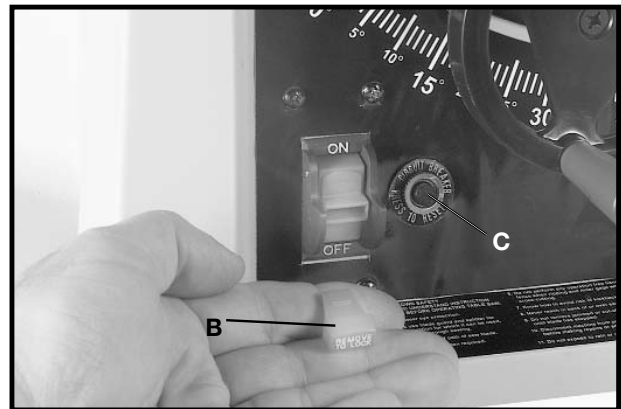

Fig. 30
**IMPORTANT:** When the tool is not in use, the switch should be locked in the “OFF” position to prevent unauthorized use. To lock the tool, grasp the switch toggle (B) and pull it out of the switch (Fig. 30). With the switch toggle (B) removed, the switch will not operate. However, should the switch toggle be removed while the saw is running, the machine can be turned “OFF,” but cannot be restarted without re-inserting the switch toggle (B).
Your saw is equipped with a reset button (C) Fig. 30. If the motor stops or fails to start due to over-loading (cutting stock too fast, using a dull blade, using the saw beyond its capacity, etc.) or low voltage, turn the switch to the “OFF” position. Let the motor cool three to five minutes. Push the reset button (C) to reset the overload device. The motor can then be started again in the usual manner.